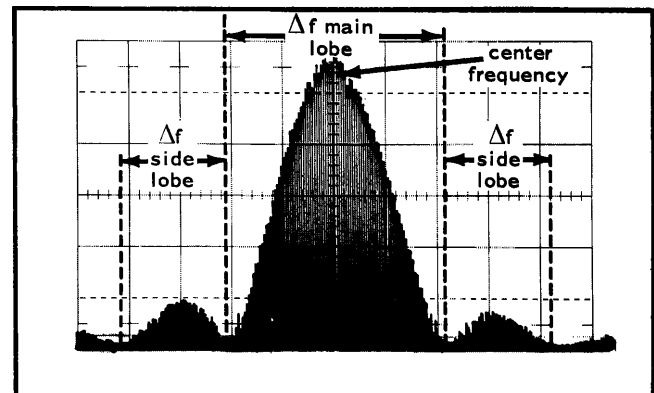
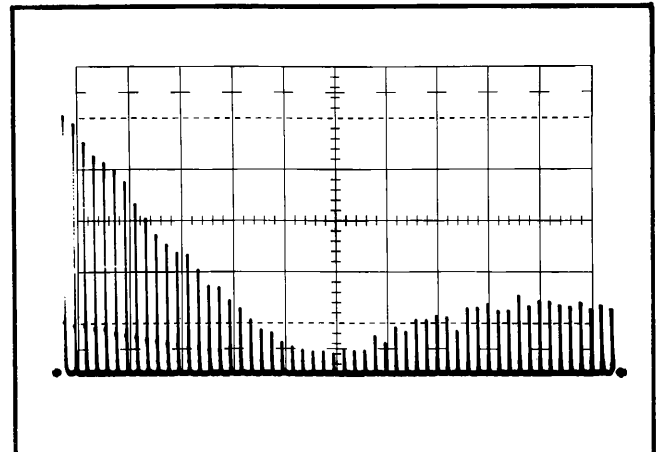

Fig. 2-8. Spectrum for a square RF pulse.
Fig. 2-10. $\times 5$ magnification applied to the display shown in Fig. 2-9.
1. Adjust the DISPERSION-COUPLED RESOLUTION control and the RF CENTER FREQ Control so that the main frequency lobe of the displayed signal is in the approximate center of the graticule and the side lobes of interest are visible. (See Fig. 2-8.)
5. The equivalent pulse width of the modulation signal can now be determined by measuring the frequency width (see Fig. 2-8) of either the main lobe (Δf_{main}) or a side lobe (Δf_{side}) as directed in Frequency Difference Measurements on page 2-8 and calculating for pulse width:
The spectrum analyzer can also be used to measure the repetition frequency of the pulsed signal. Note in Fig. 2-8 the frequency distribution for the pulsed signal is a series of vertical lines. Each line represents one sampling (interception) of a pulse during the sweep interval. Thus, at zero dispersion, the line spacing will correspond directly to the sweep time.
Fig. 2-10 shows an expanded display of the pulsed RF signal that was shown in Fig. 2-8. The spectrum is being examined in detail in the vicinity of one of the nulls.